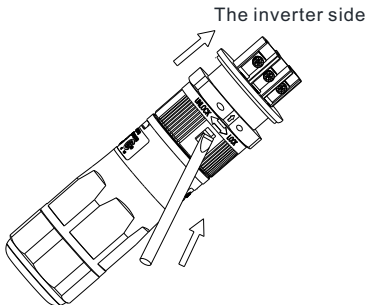

Figure 5.21
- If you want to operate the inverter in the on-grid mode only, please refer to Fig 5.21 to connect the AC Grid terminal and reserve the EPS Output terminal.